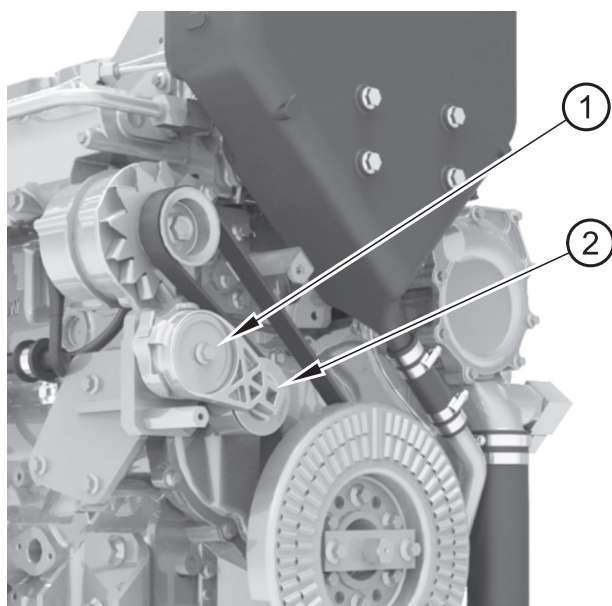

Figure 13
2. Insert a square drive tool (figure 13 item 2) into the square hole in the belt tensioner (item 1). Rotate the belt tensioner clockwise in order to relieve tension on the drive belt. Remove the belt.